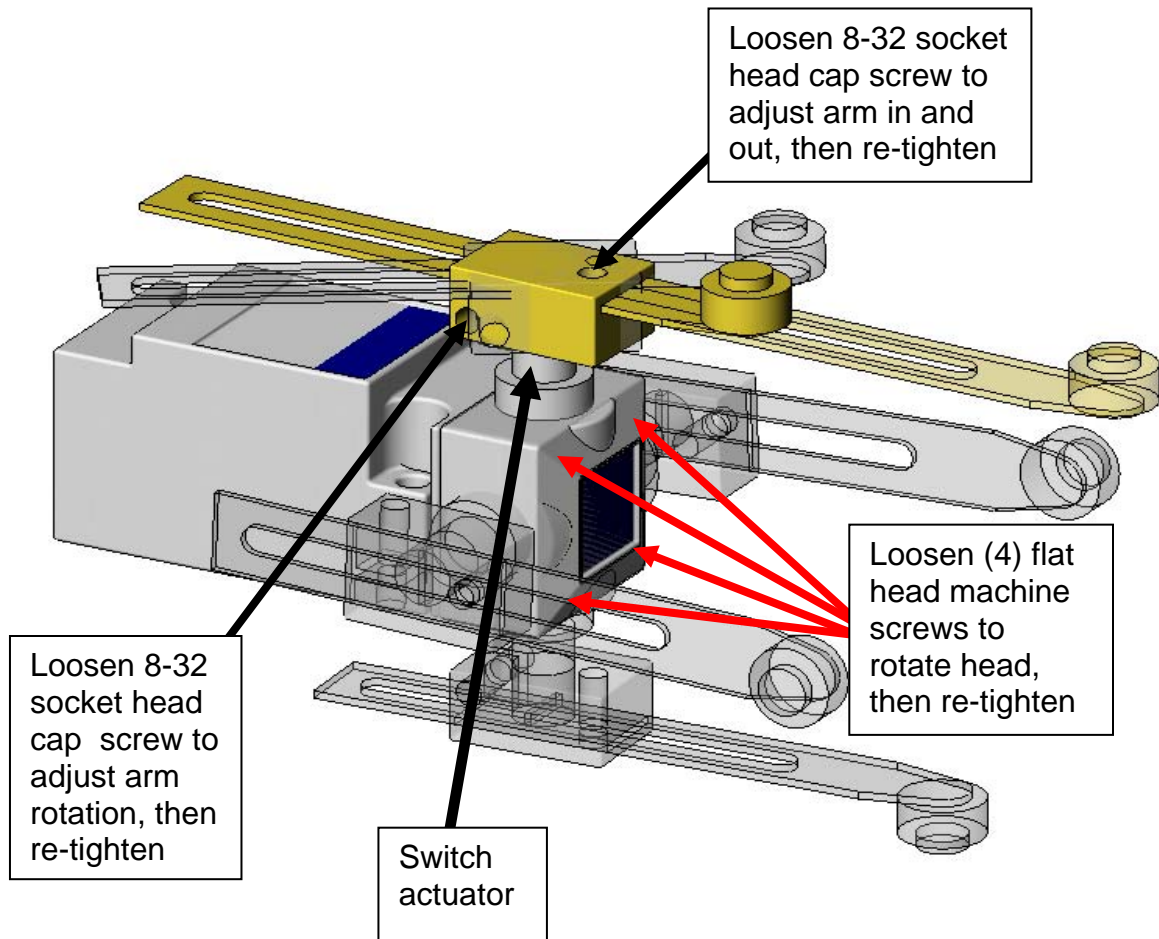

Figure 37 Sensing Switch Adjustments
NOTE: To change the actuation direction of the switch, remove the switch head. Change the actuating control knob/mechanism to the desired actuation direction. (**Reference Figure 37**)
NOTE: To change the actuation direction of the switch, remove the switch head. Change the switch actuator to the desired actuation direction, then re-tighten the (4) machine screws holding the switch head to the switch body. (**Reference Figure 37**)
NOTE: To change the actuation direction of the switch, remove the switch head. Change the actuating control knob/mechanism to the desired actuation direction. **(Reference Figure 37)**